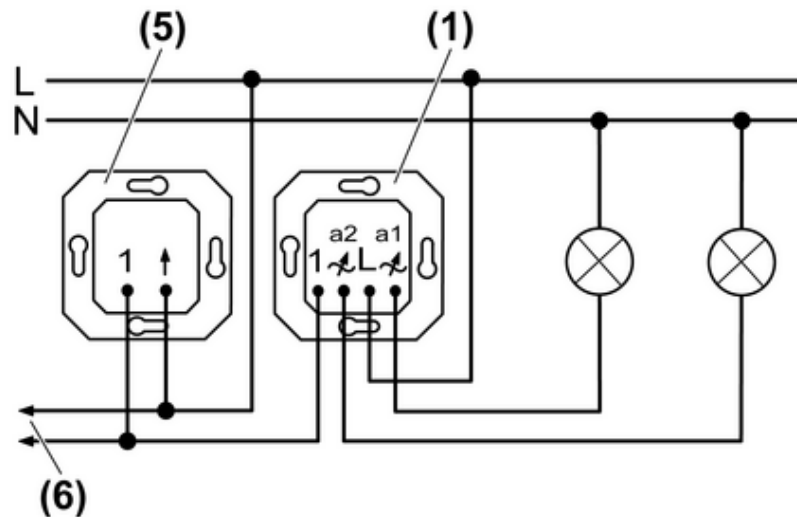

Figure 3: Connection diagram
- (1) Dimmer
- (5) 2-wire extension
- (6) to additional extensions
- Connect the dimmer according to the connection diagram (figure 3).